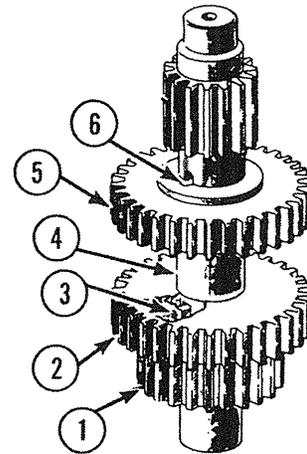
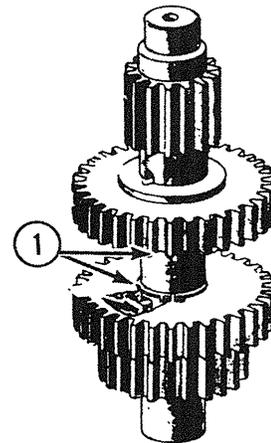

Fig. 3-21
Fig. 3-22
- A. Remove lower gear (23t) (1, Fig. 3-21).
- B. Remove (33t) gear (2, Fig. 3-21).
- C. Remove key (3, Fig. 3-21).
- D. Remove spacer (4, Fig. 3-21). Older models had snap rings as shown in (1, Fig. 3-22).
- E. Remove (32t) gear (5, Fig. 3-21) and short key (6, Fig. 3-21).
- A. Install short key then (32t) gear with hub against shaft shoulder (5, Fig. 3-21).
- B. Old style install first and second retaining ring (1, Fig. 3-22). New style install spacer (4, Fig. 3-21).
- C. Install long key and (33t) gear (2, Fig. 3-21), hub down.
- D. Install 23t gear (1, Fig. 3-21).